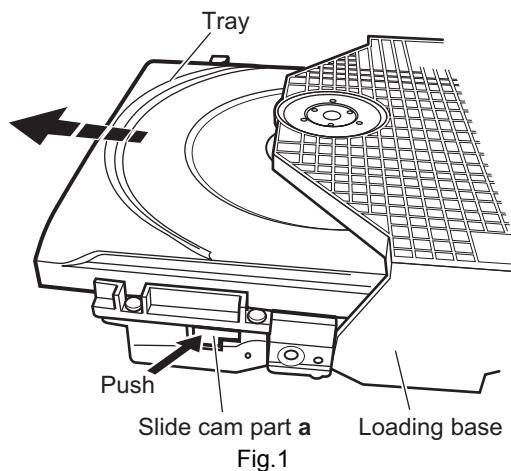
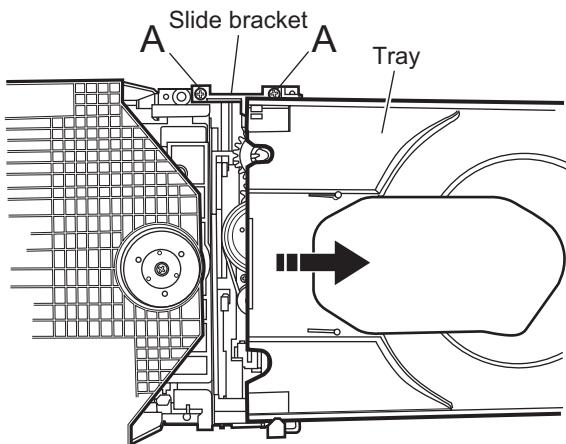

Fig.1
Fig.2
#### 3.2.1 Removing the tray (See Figure 1, Figure 2, Figure 3, Figure 4, Figure 5, Figure 6)
- (1) Push **a** of the slide cam on the hole in the right side of the loading base by using a driver until it stops. (See Figure 1.)
- (2) The tray comes out. Pull the tray in a front direction until it stops.
- (3) Remove the two screws **A** attaching the slide bracket. (See Figure 2.)